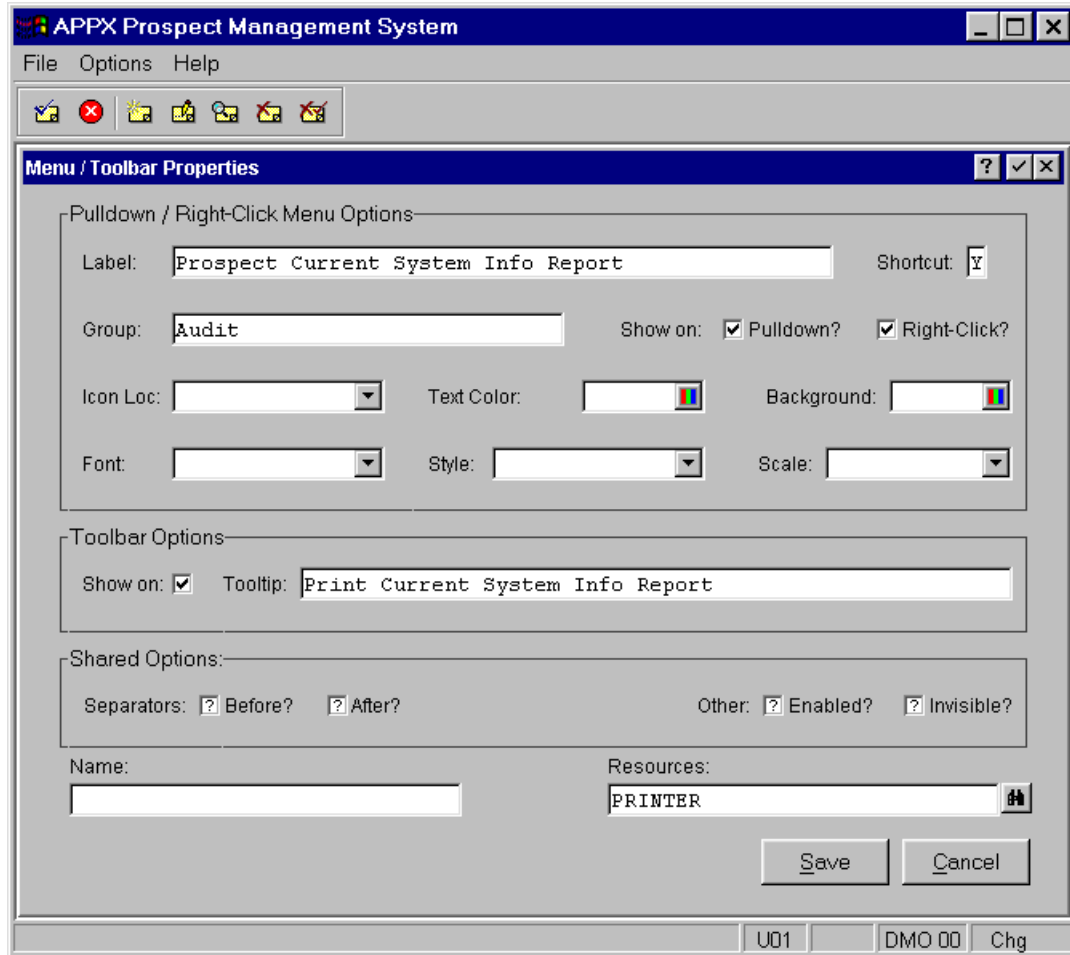

Figure E4.19 – Menu/Toolbar Properties screen
- The **Menu/Toolbar Properties** screen is displayed (*Figure E4.19*).